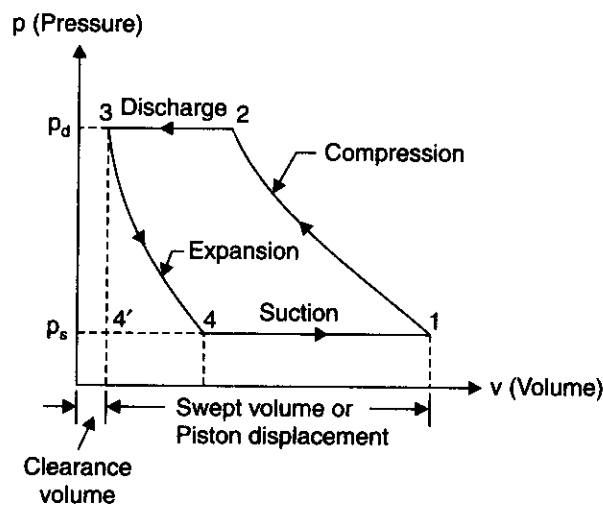

Fig. 14.20
**Clearance volumetric efficiency.** 'Clearance volume' is the volume of space between the end of the cylinder and the piston when the latter is in dead centre position. The clearance volume is expressed as a percentage of piston displacement. In Fig. 14.20 the piston displacement is shown as 4'-1.